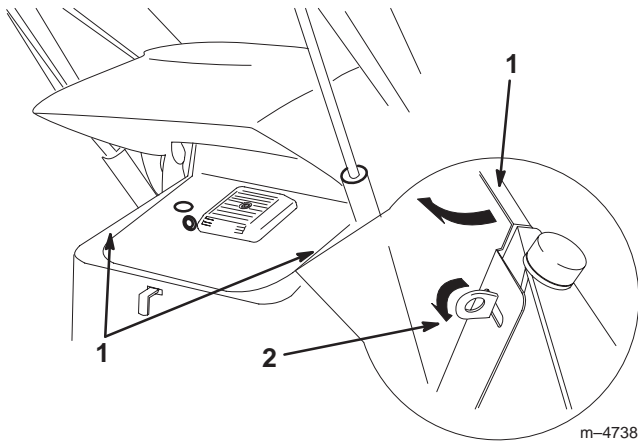

Figure 21
2. Pull out and turn the two locking tabs on the inside of the side screen until they line up with the slots in the screen (Fig. 21).
3. Slide the slots in the screen over the locking tabs (Fig. 21).
4. Turn the tabs and fold them down to lock the screen in place (Fig. 21).